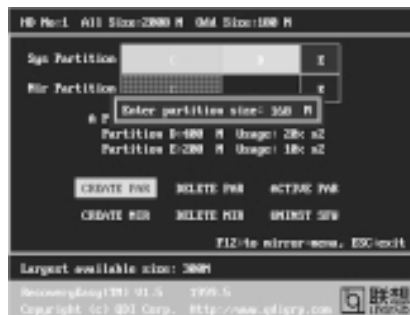

figure-2 Create Partition
- b. If answering "Y", input the new partition size in Megabyte. Notice that the maximum partition size that can be assigned is half of the left disk space, which is also displayed in the status line. Another half is for the mirror partition. If answering "N", the whole disk space left can be assigned. See figure-2.